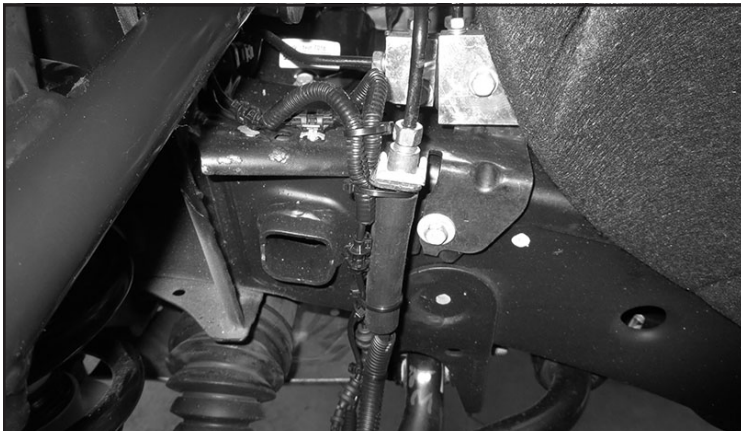

FIGURE 30 - STEP 27
27. Using the supplied zip ties. Secure the ABS wires to the factory brake hard line on the frame. **SEE FIGURE 30**